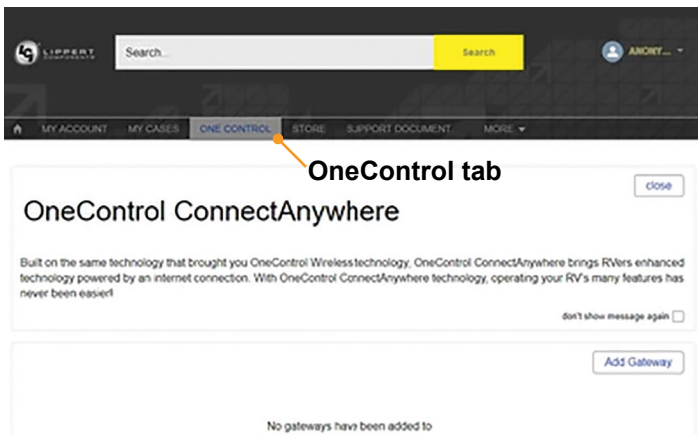

Fig.29
3. The main OneControl ConnectAnywhere dashboard (Fig.29) will display.